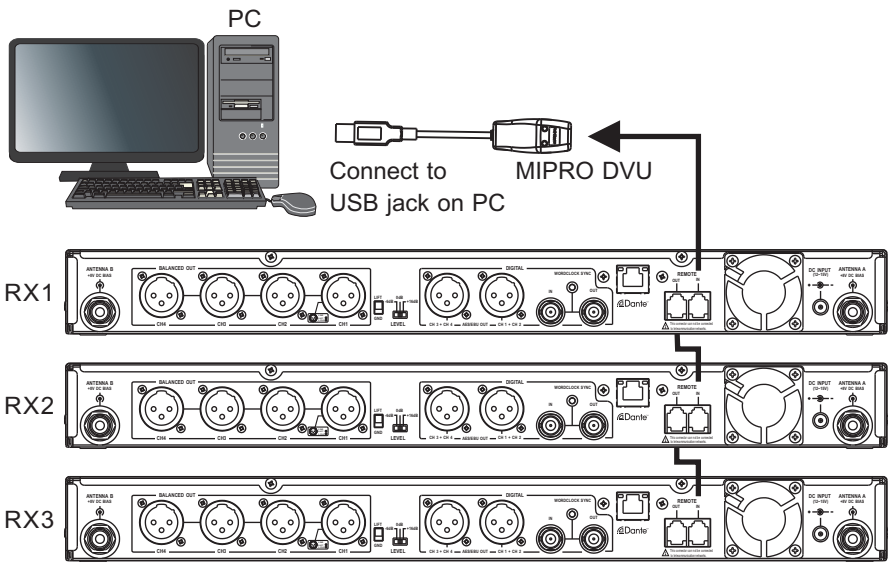

Fig.25
2. MIPRO DV Wiring Instructions, Fig. 25:
- (A) Use supplied hardware cable for serial connection to MIPRO receivers and PC network interface connector 17.
- (B) Next, use an USB connector to link receivers input interface connector via MIPRO DVU to a computer USB PORT.
- (C) Up to 64 receiver channels can be connected, remote-controlled and monitored.
- (D) The network cable length can be connected up to 300 meters, but the longer it is, the transmission quality will be more unstable. The ideal cable length for optimal transmission quality is less than 100 meters.